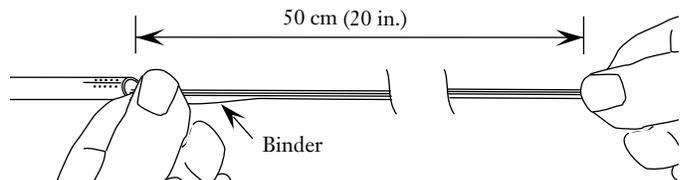

Figure 43
**7.33** With one hand, tightly grasp the groups of fibers 50 cm (20 in.) away from one end of the central tube. With the opposite hand, pick out a binder thread and its fibers at the end of the tube (Figure 43).